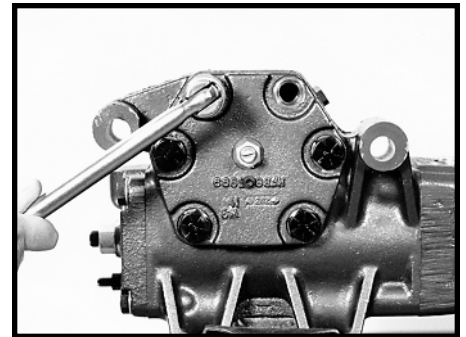

Figure 43
7. Prepare for fluid to drain, and remove the six special bolts (61) from the side cover (58) with a 15/16 inch socket. SEE FIGURE 43.